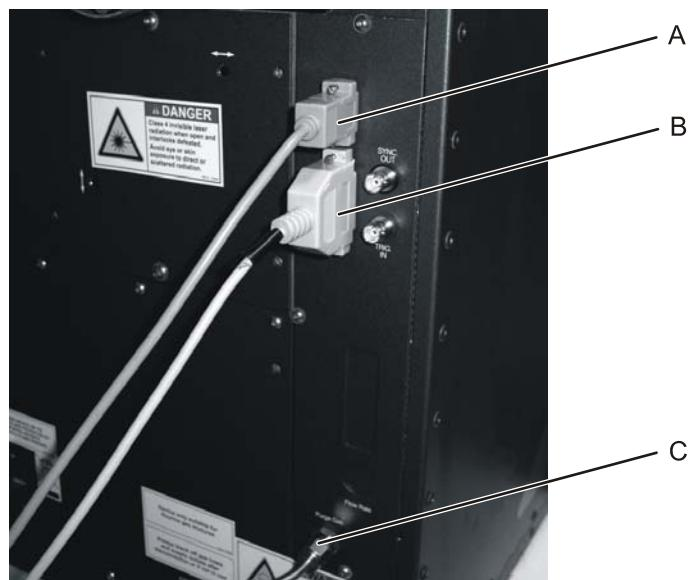

Figure 85: Interface board external connections
1. Disconnect the handheld keypad (see Figure 85, B) and any other devices (A) connected to the interface board connection plate.